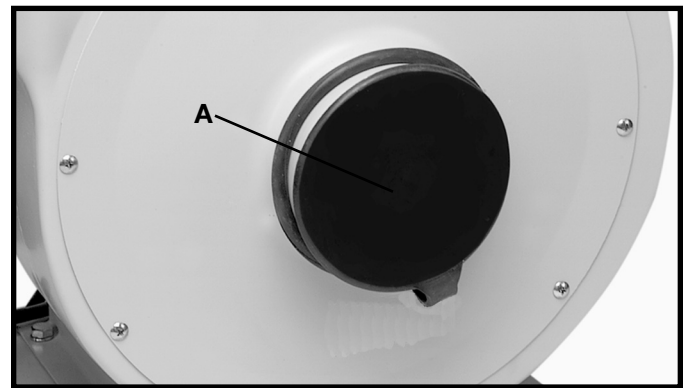

Fig. 31
4. **⚠ WARNING** Always make sure that the intake cap (A) Fig. 31, covers the intake port when the hose is not connected to the machine.